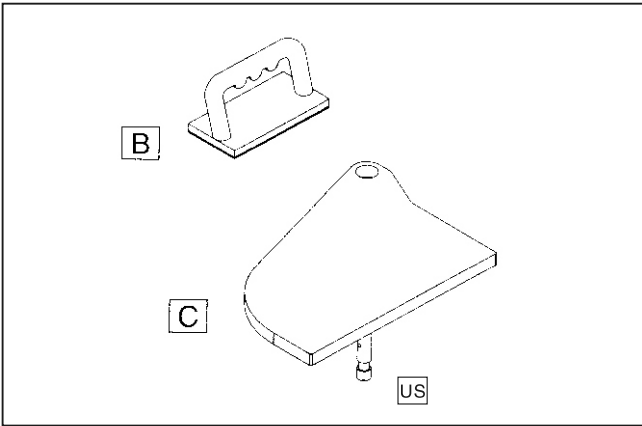

Figure 1. Common components
- Common Components(**Figure 1 & 3**) Qty
9. Press the ON button, then immediately press the OFF button on the magnetic box (**Figure 1, Page 4**).